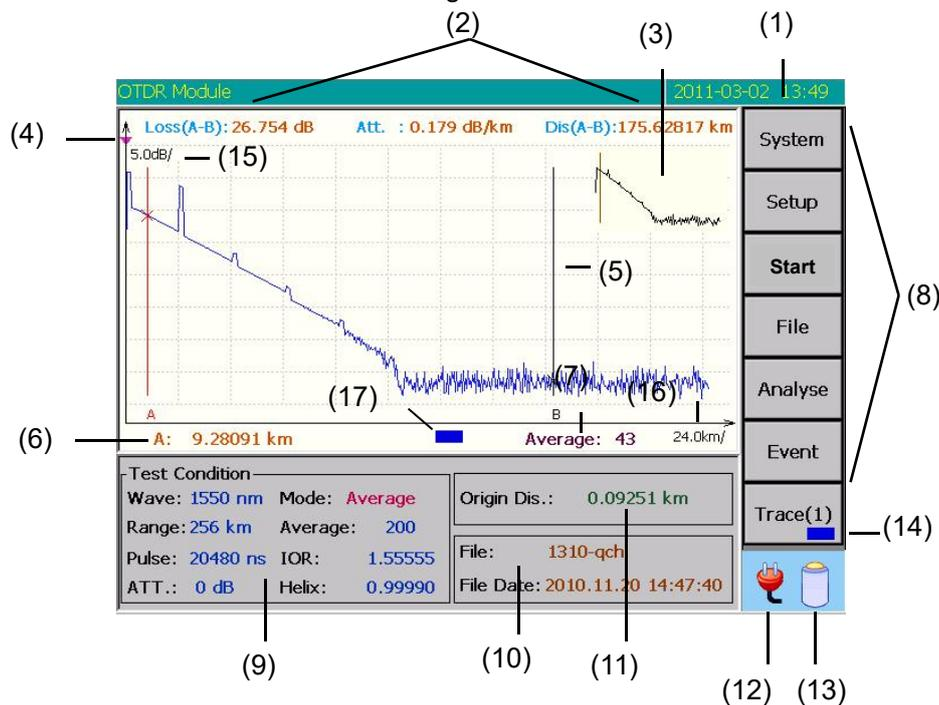

Figure 7-1 Main Screen
Press the button **【OTDR】** as shown in Figure 2-1 to enter the operating interface of OTDR as shown in Figure 7-1.
The operating interface of OTDR is composed of main screen and operating sub-window. After the instrument enters the operating interface of OTDR module, the display will show the main screen of OTDR as shown in Figure 7-1.
The schematic of main screen is shown in Figure 7-1.
In the main screen displayed in Figure 7-1, press the button **【Analyse】** to analyze the current trace and display event list. If the current event table has contents, press the button **【Event】** to show event list. The event list window is shown in Figure 7-2.
- Start** : Start key When the operating interface of OTDR module shows main screen ( as shown in Figure 7-1), press this key to start OTDR module to test the optical fiber under test and display trace in the operating window.
(1) The test modes of OTDR include: **auto test, real-time test, average test and dead zone test.**
(2) The test modes can be set in OTDR parameter setup window.